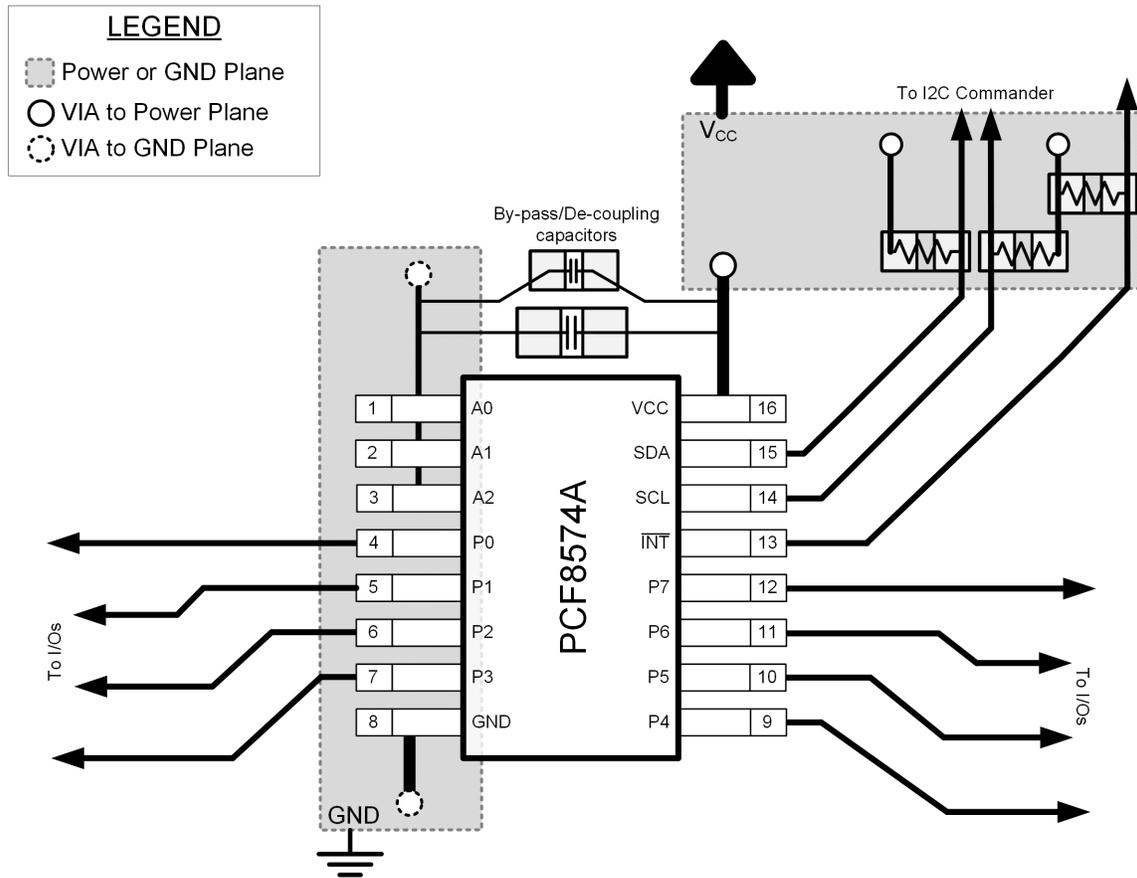

图 8-10. Layout Example for PCF8574A
When the I/Os are used to control LEDs, normally they are connected to V_{CC} through a resistor as shown in 图 8-10. For a P-port configured as an input, I_{CC} increases as V_I becomes lower than V_{CC} . The LED is a diode, with threshold voltage V_T , and when a P-port is configured as an input the LED will be off but V_I is a V_T drop below V_{CC} .
In all PCB layouts, it is a best practice to avoid right angles in signal traces, to fan out signal traces away from each other upon leaving the vicinity of an integrated circuit (IC), and to use thicker trace widths to carry higher amounts of current that commonly pass through power and ground traces. By-pass and de-coupling capacitors are commonly used to control the voltage on the V_{CC} pin, using a larger capacitor to provide additional power in the event of a short power supply glitch and a smaller capacitor to filter out high-frequency ripple. These capacitors should be placed as close to the PCF8574A device as possible. These best practices are shown in 图 8-10.
For the layout example provided in 图 8-10, it would be possible to fabricate a PCB with only 2 layers by using the top layer for signal routing and the bottom layer as a split plane for power (V_{CC}) and ground (GND). However, a 4 layer board is preferable for boards with higher density signal routing. On a 4 layer PCB, it is common to route signals on the top and bottom layer, dedicate one internal layer to a ground plane, and dedicate the other internal layer to a power plane. In a board layout using planes or split planes for power and ground, vias are placed directly next to the surface mount component pad which needs to attach to V_{CC} or GND and the via is connected electrically to the internal layer or the other side of the board. Vias are also used when a signal trace needs to be routed to the opposite side of the board, but this technique is not demonstrated in 图 8-10.